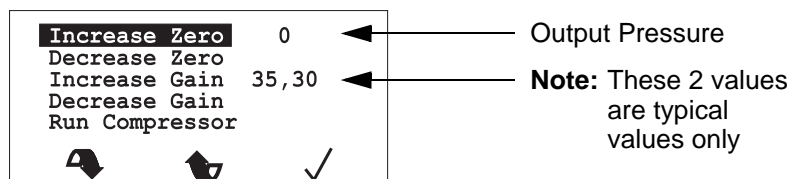

Figure 23 - LCD Display - Run Compressor
- 7.6 Using the **Down** and **Up** buttons below the LCD display (Refer to Page 5, Section 4), scroll down the list of options to **Calibrate PT**, and select it using the **✓** button below the LCD display. A new list of options will appear (Refer to Figure 23).